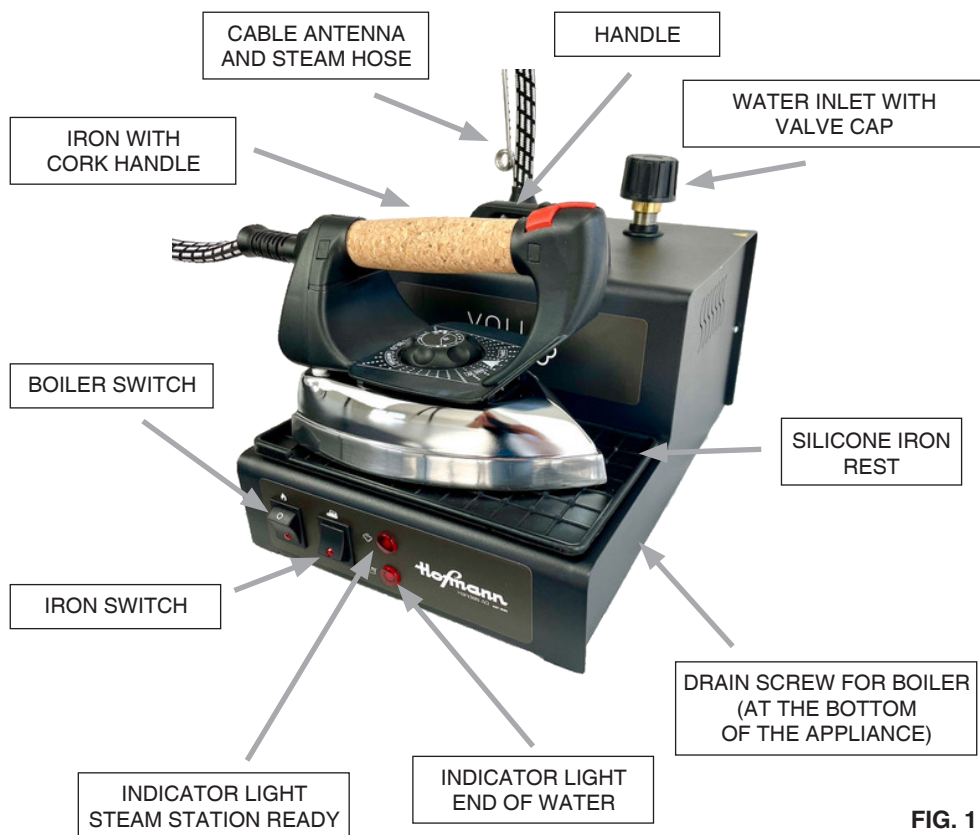

FIG. 1
Before starting the device it is necessary for the customer to prepare a protected power socket suitable for the power of the appliance near the place of use of the machine (A 16 A and Id 30 mA differential magnetothermic switch is recommended). For the transport and handling of the machine use only the appropriate handle. Never pull the electric cables (fig. 1).
2. Remove the appliance from the box, mount the beam and insert it in the appropriate beam port located on the back (fig. 1), having the warning to insert it well to the bottom.
4. Put the iron on the iron rest (fig. 1).
1. Unscrew the valve cap (fig. 1) and fill the boiler with the desired amount of water, taking care that it does not overflow. It is advisable to fill the boiler with a funnel. Screw the cap by taking the plastic part with the warning not to tighten it too much otherwise it will ruin the gasket (see chap. 7).
3. Turn on the boiler switch, the iron switch (fig. 1) and bring the iron thermostat to the position between " ●● " and " ●●● ".
10. **The valve cap (fig. 1) must never be replaced with other caps. N.B.: the valve cap is calibrated at 4.5 bar and also has the function of safety valve.**